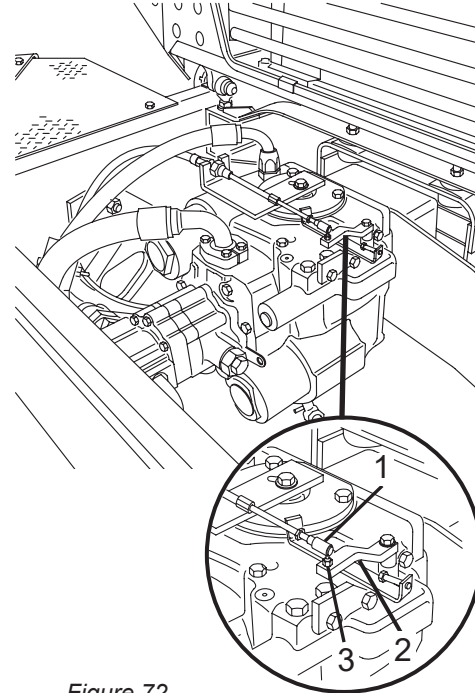

Figure 72
1. Pull back and hold the head (Figure 72, Item 1) of the control cable. Lift the end of the cable off the pivot (Figure 72, Item 3) to disconnect the control cable from the pump control lever (Figure 72, Item 2).
2. Move the pump control lever (Figure 72, Item 2) as required to start the drum rotation in the charge or